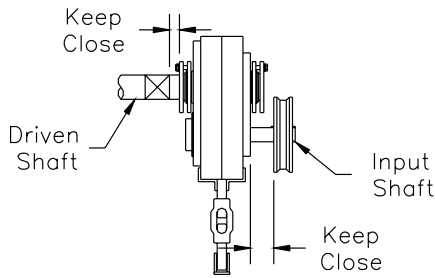

Figure 2 - Reducer and Sheave Installation
4. Install sheave on input shaft as close to reducer as practical. (See Fig. 2)